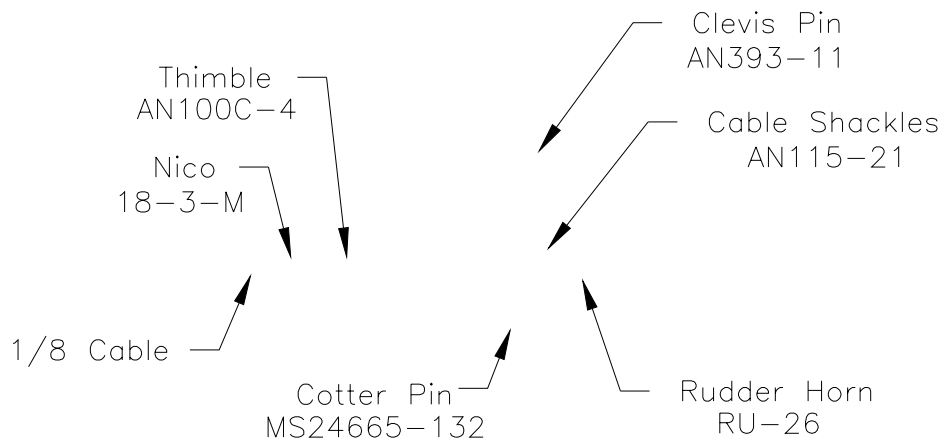

Figure 20.11.5
10) Assemble cable and attach to the outermost holes in the rudder horn. Figure 20.11.5.